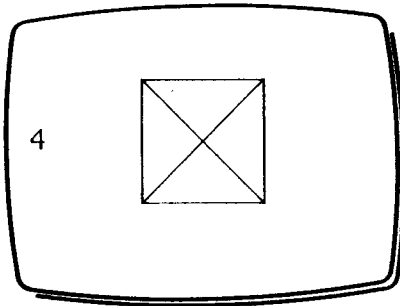

Fig 4
- 3 **Alter the drawing as in Fig 4.**